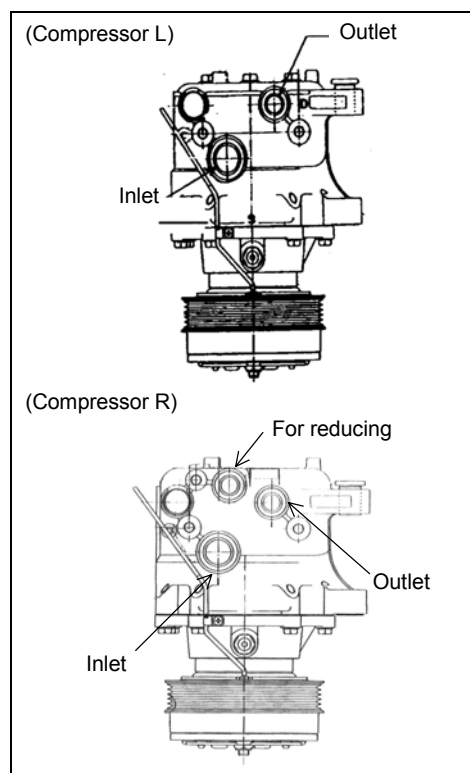

Fig. 2
- [3] Add the required amount of new refrigerator oil from the inlet and outlet ports. See Fig. 2